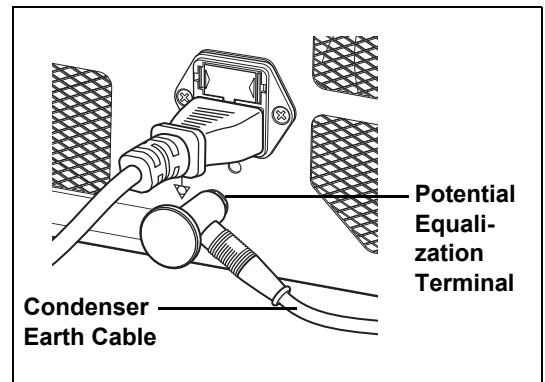

Figure 3.5
- 1 Connect the condenser earth cable OL-Z4 to the potential equalization terminal on the processor. (Refer to Figure 3.5.)